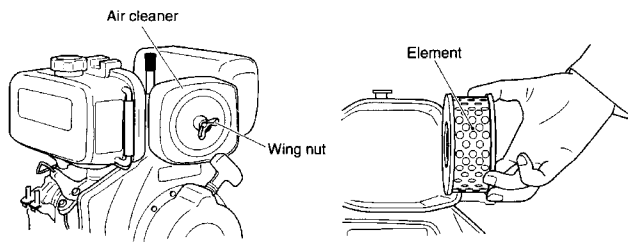

Figure 30. Engine Air Filter and Element
1. The air filter element (Figure 30) should be cleaned because a clogged air cleaner can cause poor engine starting, lack of power and shorten engine life substantially.
2. To clean or replace air filter loosen the wing nut on the air filter housing (Figure 30) remove the cover and take out air filter cartridge. If only cleaning of the air filter is desired blow through the air filter cartridge from the inside, moving a jet of dry compressed air up and down until all dust is removed.